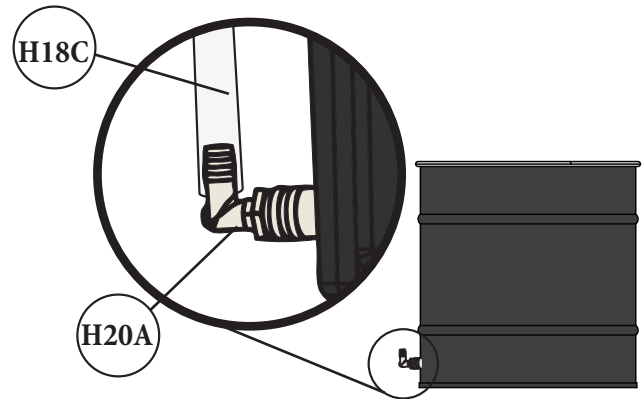

FIG. 20
Attach the long end of the Tube Assembly (H18C) onto the Nylon Elbow (H20A) installed on the lower section of the Drum (M). Push the Hose onto the fitting so that all barbs are covered [FIG. 20].